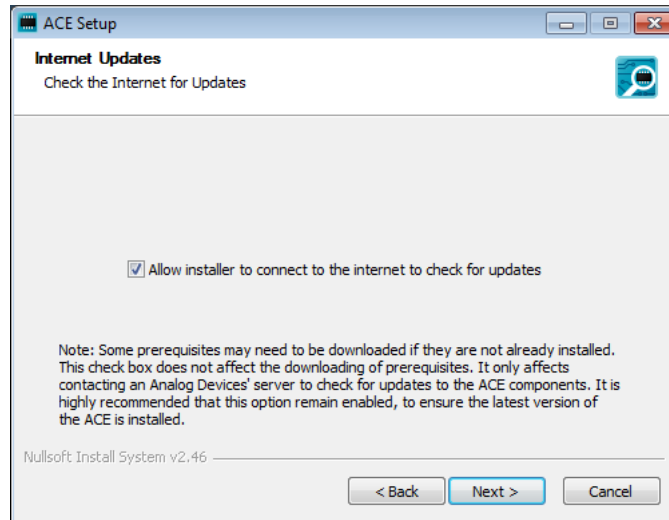

Figure 2-2: ACE Setup Wizard Step 2
Step 2: Decide if you want the installer to check for a newer version of the installer. If the checkbox is selected the installer will test if it is the latest version of the installer if it finds a newer version it will download it and install the newer version of the software. This is the preferred option as it ensure you have access to all new features and any bug fixes. If you wish not to check for updates uncheck the checkbox. Click “Next” to proceed to the next step of the wizard, Figure 2-2.